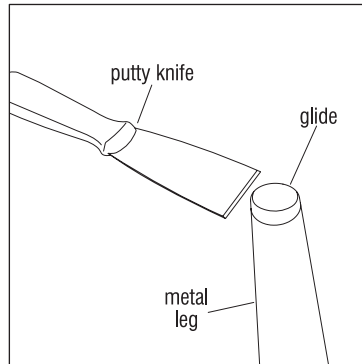

Figure 1 - Press-In Glide
2. Using a putty knife, pry up on the glide edge until it is free (Figure 1).